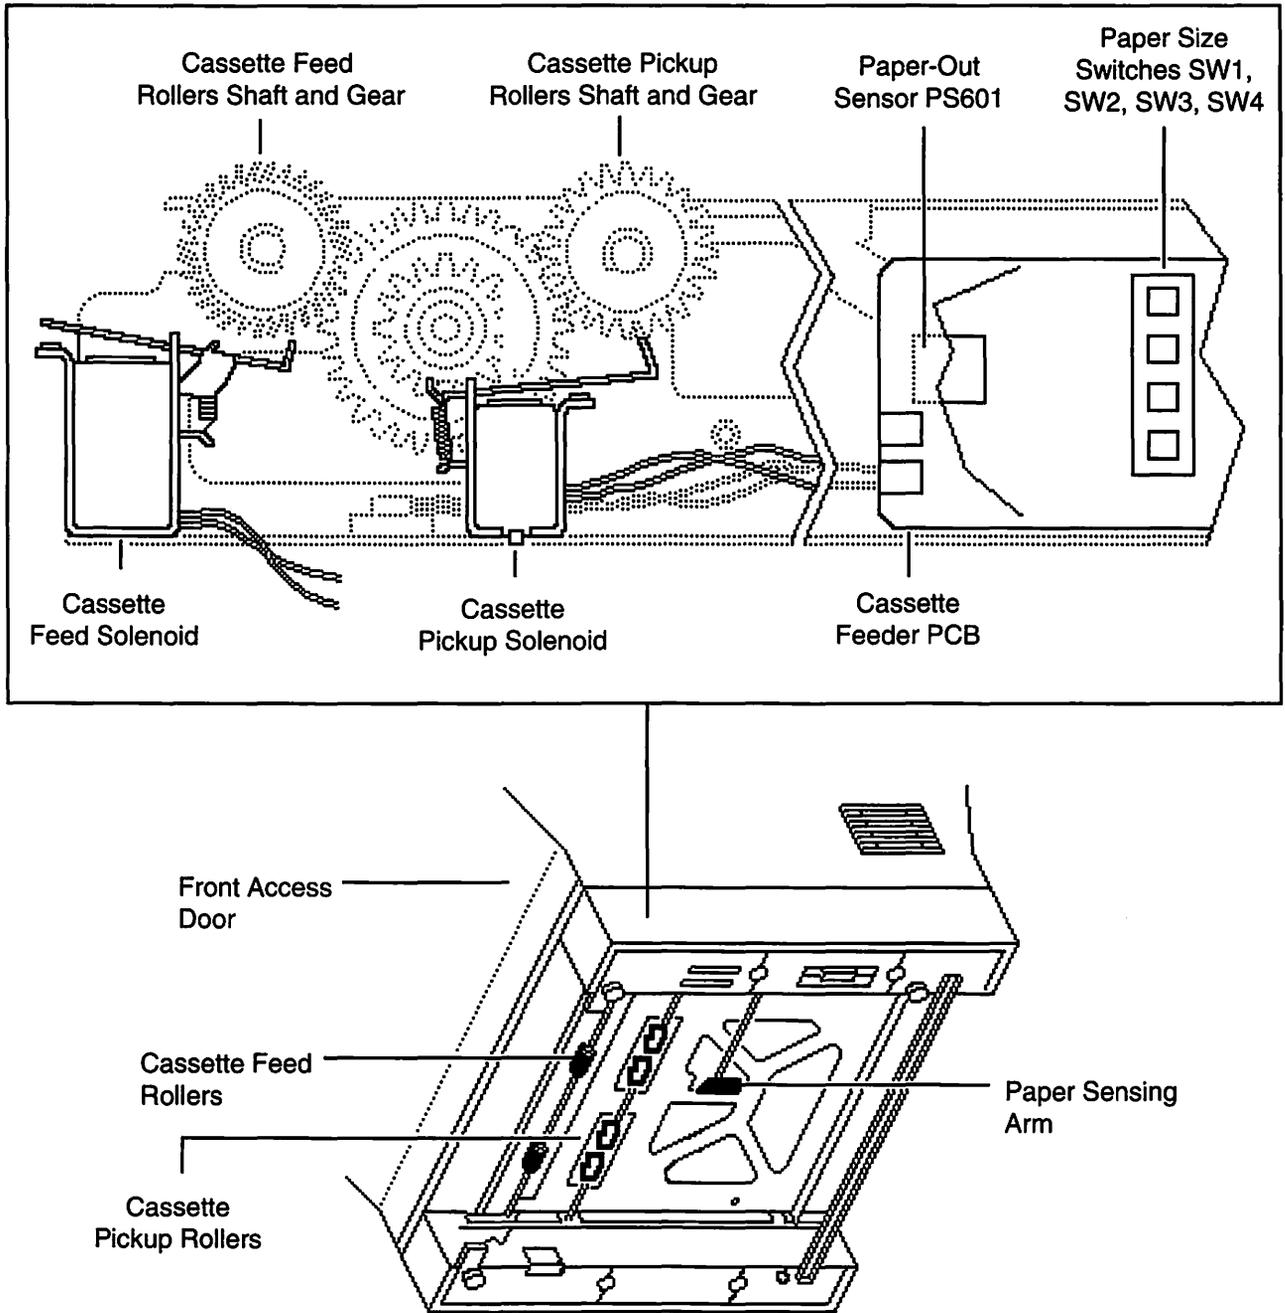
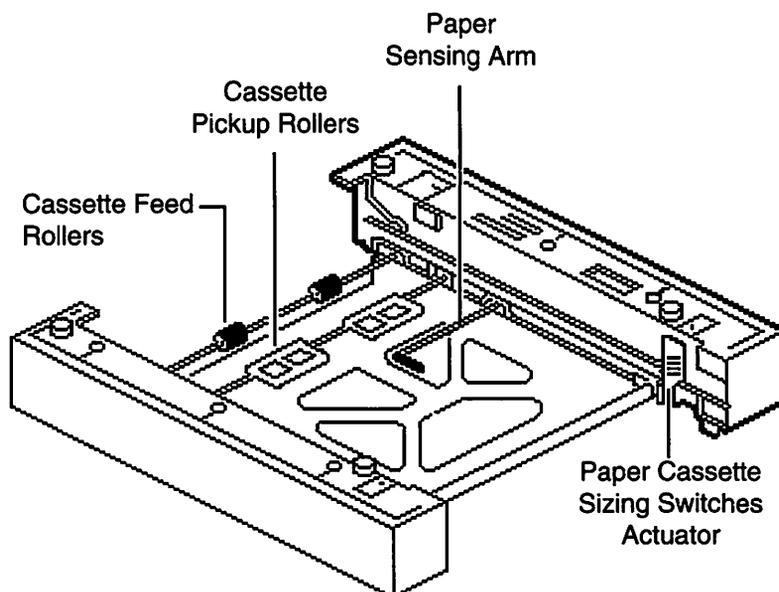

Figure 1-8
Figure 1-9
- Figures 1-8 and 1-9 (on the following pages) illustrate the components which make up the cassette feeder assembly. These components pick up and feed paper from the cassette tray and move it toward the toner cartridge.
- The cassette feeder PCB (see Figure 1-8) contains the paper-out sensor PS601 and the paper size switches SW1, SW2, SW3, and SW4.
- The paper cassette sizing switches SW1, SW2, SW3, and SW4 (see Figure 1-8) and actuator (see Figures 1-9) are activated by plastic cams on the side of the cassette tray as the tray is installed in the printer. The paper cassette sizing switches detect the size of the cassette tray and whether the cassette tray is installed.
- The paper-out sensor PS601, located on the cassette feeder PCB (see Figure 1-8), is activated by the paper sensing arm (see Figures 1-8 and 1-9) when the cassette tray is out of paper.
- The cassette pickup rollers (see Figures 1-8 and 1-9), activated by the cassette pickup solenoid (see Figure 1-8), feed one sheet of paper at a time into the cassette feed rollers.
- The cassette feed rollers (see Figures 1-8 and 1-9), activated by the cassette feed solenoid (see Figures 1-8), move the sheet of paper from the cassette pickup rollers toward the paper feed rollers (discussed later in this section).